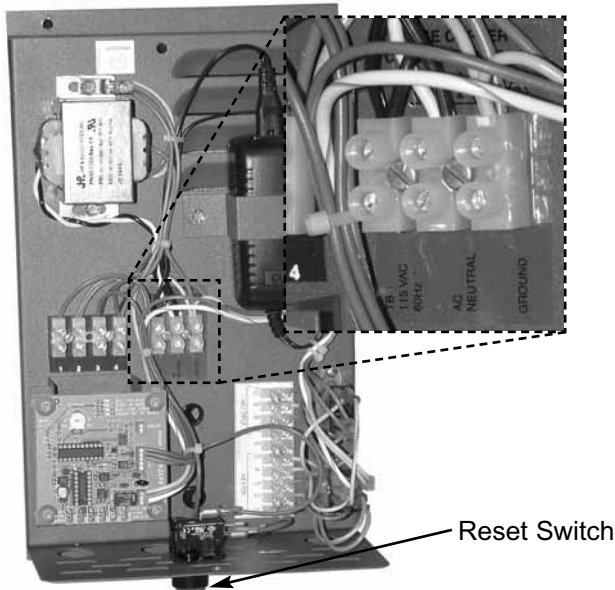

Fig. 4: Location of TB1 in Control Box
- Push the Reset Switch (see Fig. 4) or remove power and watch for proper operation.